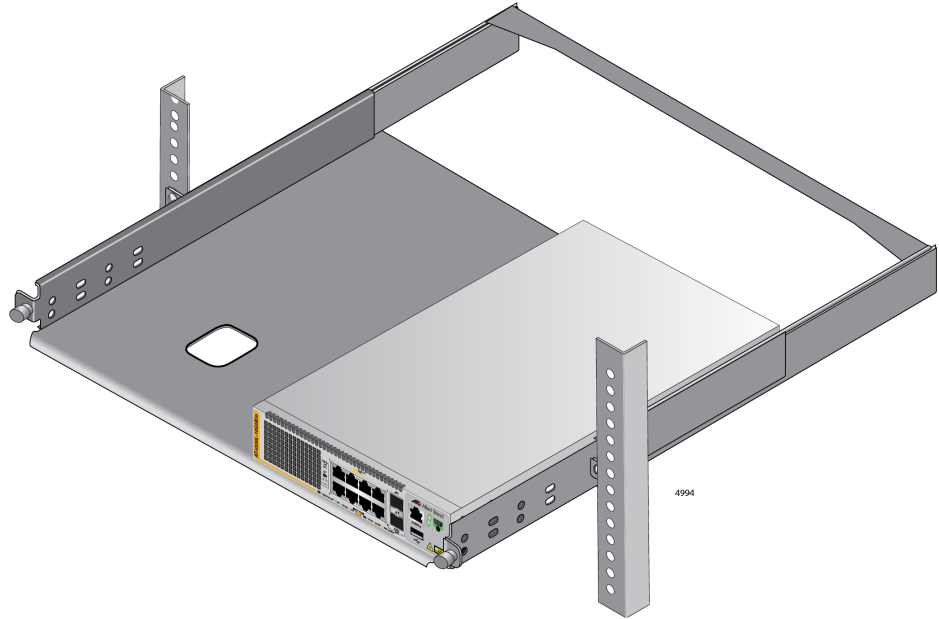

Figure 47. Placing the x530L-10GHXm Switch in the RKMT-J15 Bracket
7. Place the switch on one side of the bracket. Align the front panel with the front edge of the bracket. If you are installing only one switch, you may install it on either the left or right side. Refer to Figure 47.